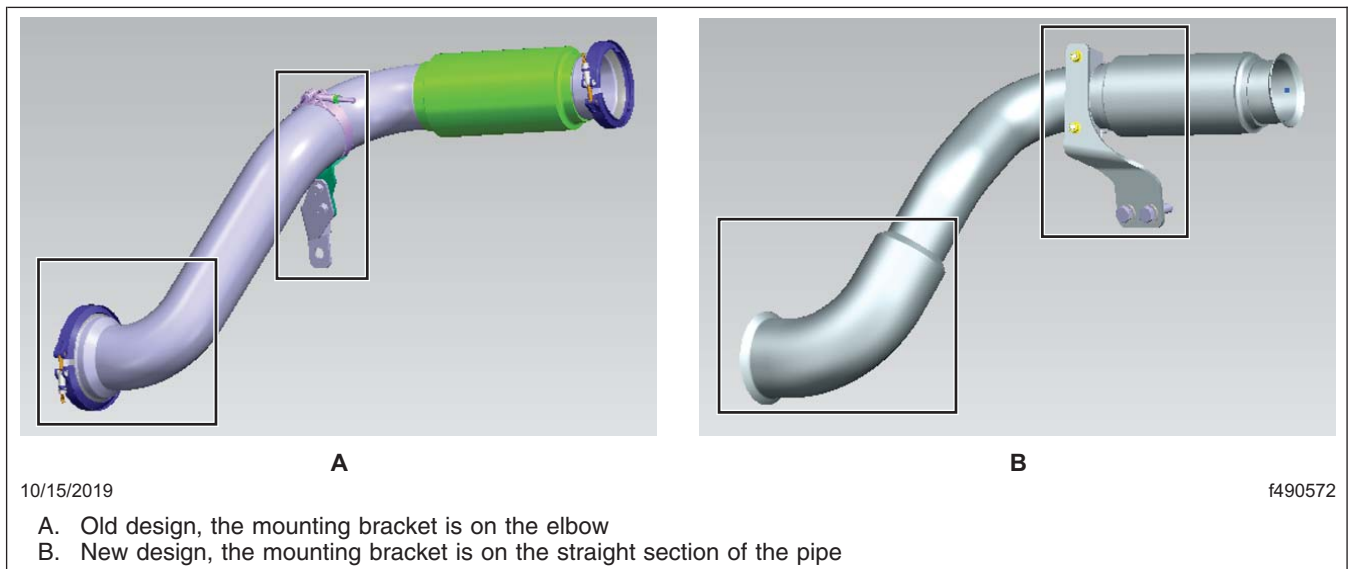

Fig. 1, Difference in the Shape of the Tube and Bracket Mounting Location
3. Compare the pipe shape and mounting bracket location, see Fig. 1.